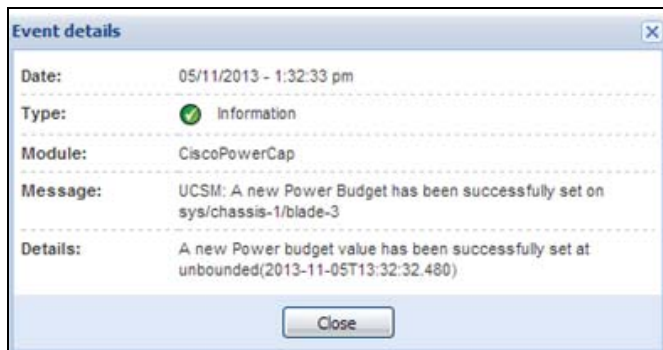

Figure 224. New Power Budget Successful
6. A new power budget has been successfully set by the server (see Figure 224).